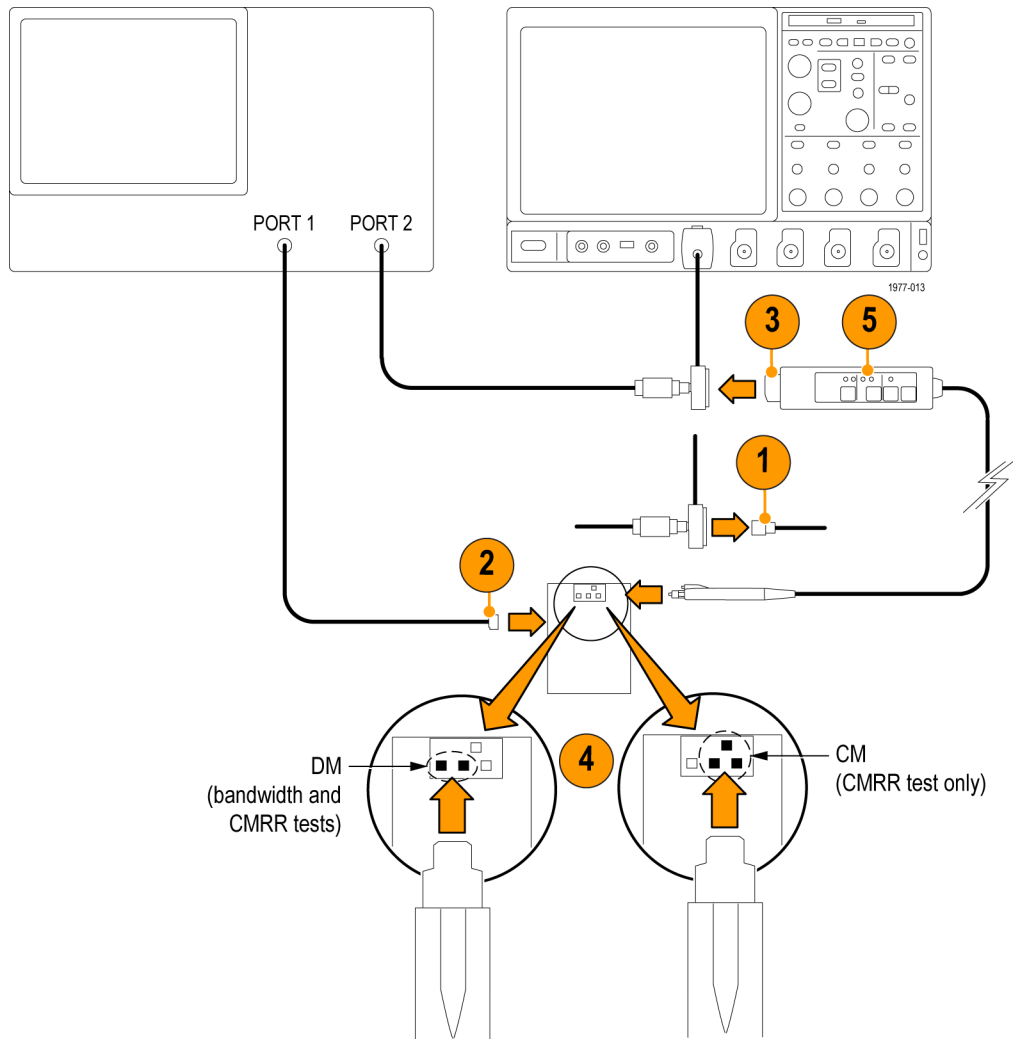

Figure 11: Setup for the analog bandwidth and CMRR tests
4. Connect the probe head to the DM pins on the Probe Tip to BNC adapter. Polarity is unimportant, but do not connect the ground pin. (See Figure 11.)
6. Disconnect the probe input from the DM pins and connect it to the CM pins on the Probe Tip-to-BNC adapter. Do not connect the probe to the ground pin on the fixture. (See Figure 11 on page 22.)